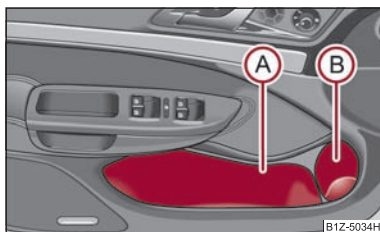

Fig. 95 Storage compartment in the front doors
Use the area (A) ⇒ fig. 95 of the storage compartment only for storing objects which do not project so that the effectiveness of the side airbag is not impaired. ■